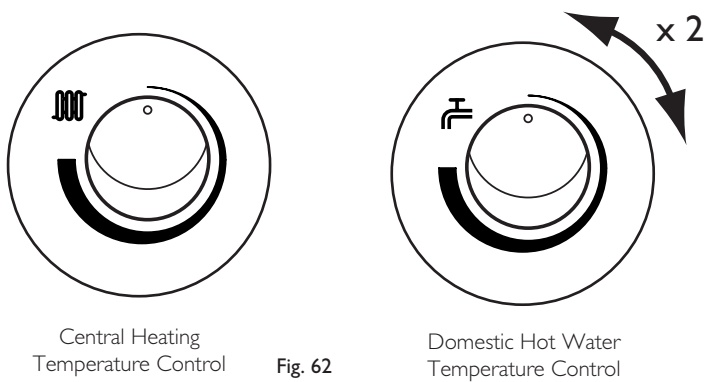

Fig. 62
3. Ensure that the integral timer and any external controls are calling for heat, and the selector switch is in the central heating and hot water position (SF). The current boiler temperature is shown on the display.
5. Turn both temperature control knobs fully anticlockwise, then quickly turn the DHW temperature knob 1/4 clockwise twice and back fully anticlockwise (Fig. 62).